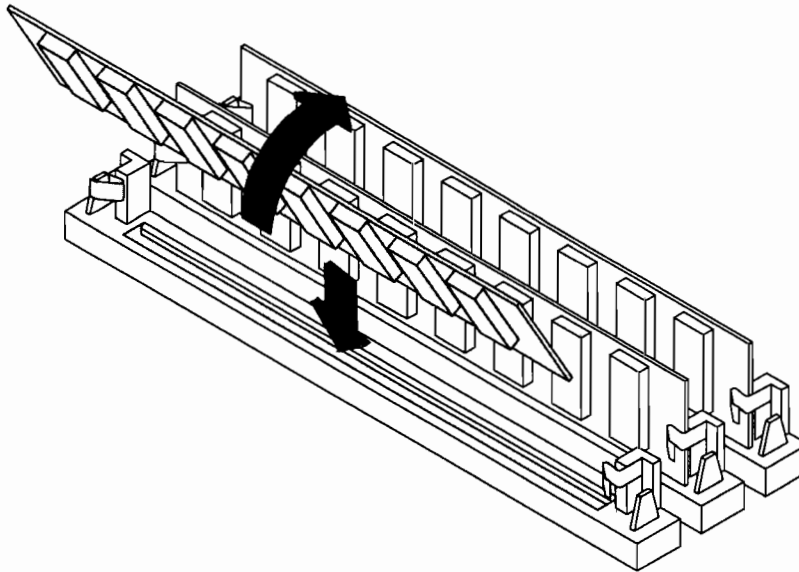

Figure B-5. Installing Memory Boards
3. Install the new memory board with its top edge tilted toward the rear of the system unit. Note that the memory board is notched on one end to fit the keyed connector. Snap the board into place by moving it to a vertical position. Its ends snaps into the slot's spring clips. Figure B-5 shows how to install the memory board.